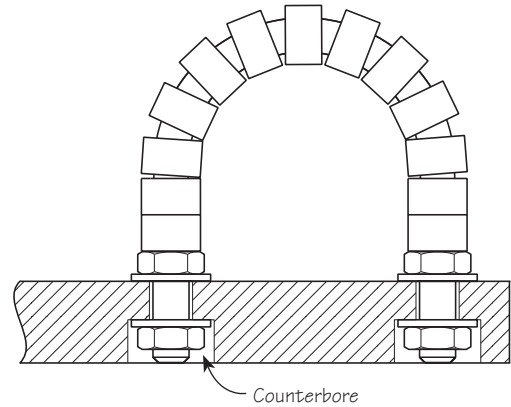

Figure 5: Glide assembly mounted in counterbored holes in trunnion.
1. Into each pair of counterbored holes, install a glide assembly using four washers and two additional nuts, as shown in **Figure 5**. Tighten only the nuts in the counterbore.